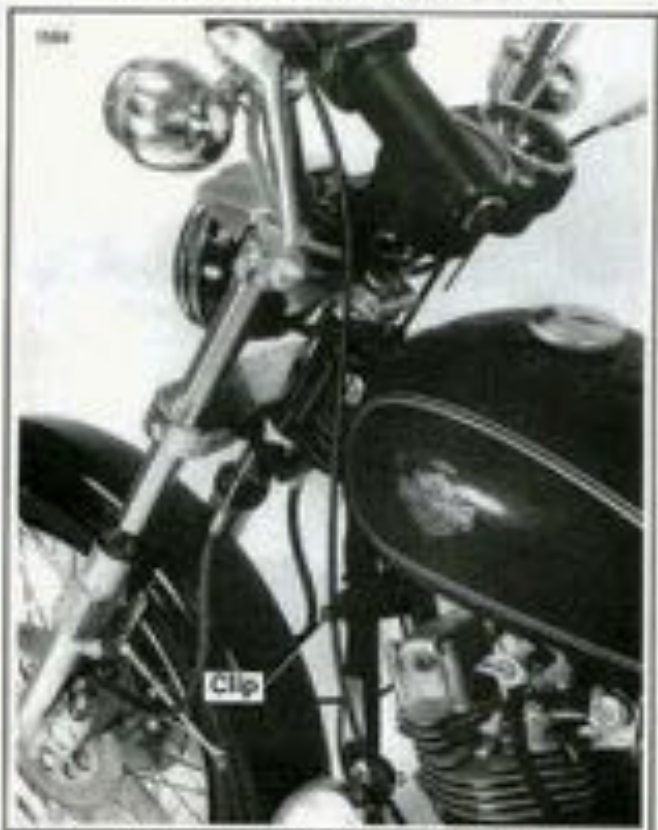

Figure 2-95. Clutch Cable Routing
2. See Figure 2-95. Route the cable along the left side down tube and through the clip as shown. On FL